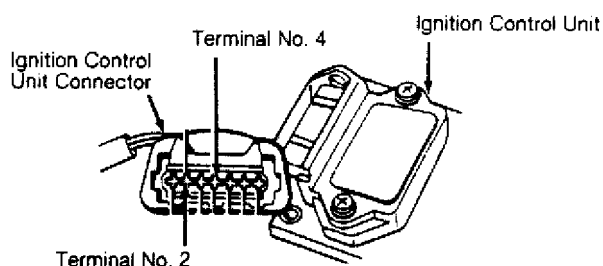

Fig. 6: Checking Typical Ignition Control Unit Voltage
1) Perform SPARK TEST check. If secondary spark is present, ignition control unit is okay. If not, turn ignition off. Disconnect ignition control unit wire harness connector. Turn ignition on. Using a voltmeter, measure voltage between terminal No. 2 (-) and terminal No. 4 (+) of connector. See Fig. 6.